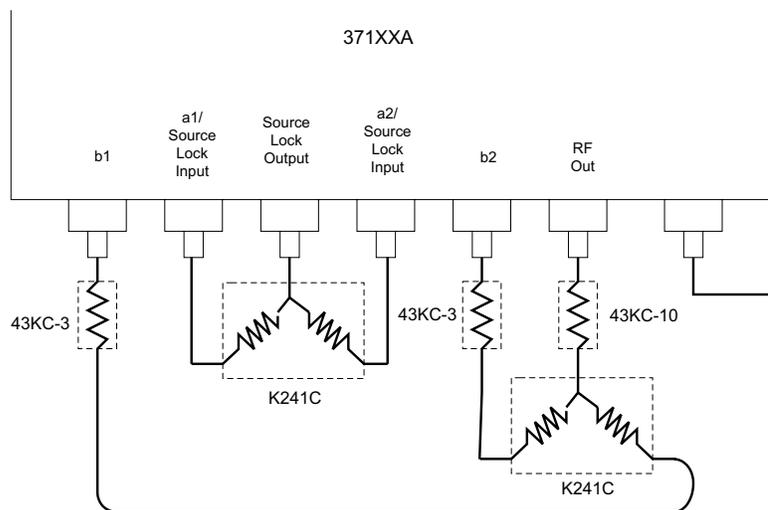

Figure 4-1. *Connecting the Test Fixtures*
- Step 1.** Connect Test Fixtures ND45331 and ND45332 to the 371XXC as shown in Figure 4-1 on the next page.
Step 1. Install the ND45331 to the Source Lock Output connector as shown on Figure 4-1.
Step 2. Install the ND45332 to the RF OUT and the B1 and B2 connectors of the 37147C (Figure 4-1).
Step 1. Remove all three 43KC-X pads from the ND45332 fixture, and install the fixture to RF OUT, B1 and B2 connectors of the 37169C (Figure 4-1).